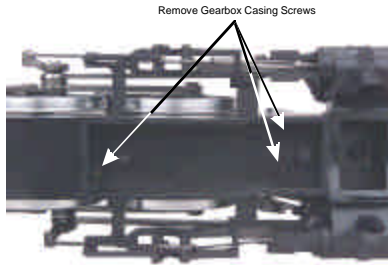

Figure 16: Gear Box Top Access Cover
5. After removing the chassis weight mounting screws, lift the weight out of the chassis and remove the gearbox top access cover mounting screws as seen in Figure 16.